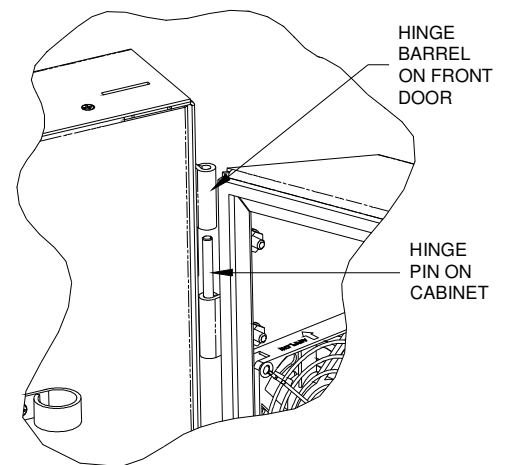

Figure 5-B – Detail View of Top Cabinet Hinge with Front Door Opened
13. The front door is secured using slide hinges, which require no tools to attach. To attach the front door, carefully lift the door, line up the hinge pins on the cabinet with the mating hinge barrels on the front door, and lower the door (see *Figure 5-B*).